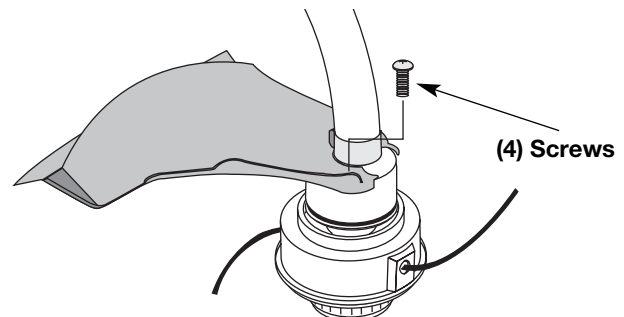

Figure 5
3. Install the four (4) screws with a Phillips screwdriver. See Figure 5.